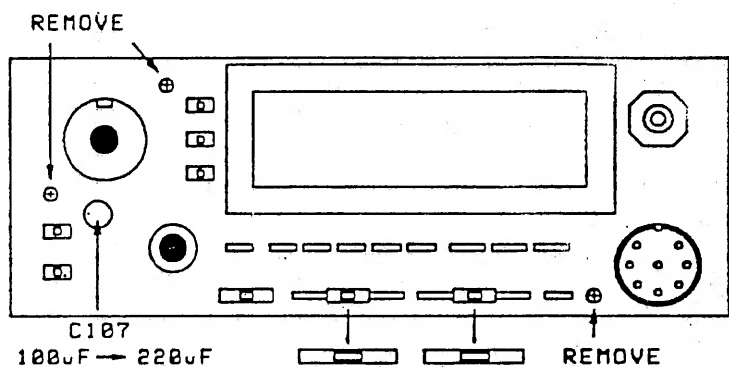

FIGURE 3
6. Remove the two black shades from the Balance and Sub-Squelch controls. **Figure 3**
7. Remove the three brass colored screws from Control board B/3. Figure 3
32. Replace C107 with the 220uF electrolytic. C107 is located between the Main and Sub rotary encoders. Figure 3